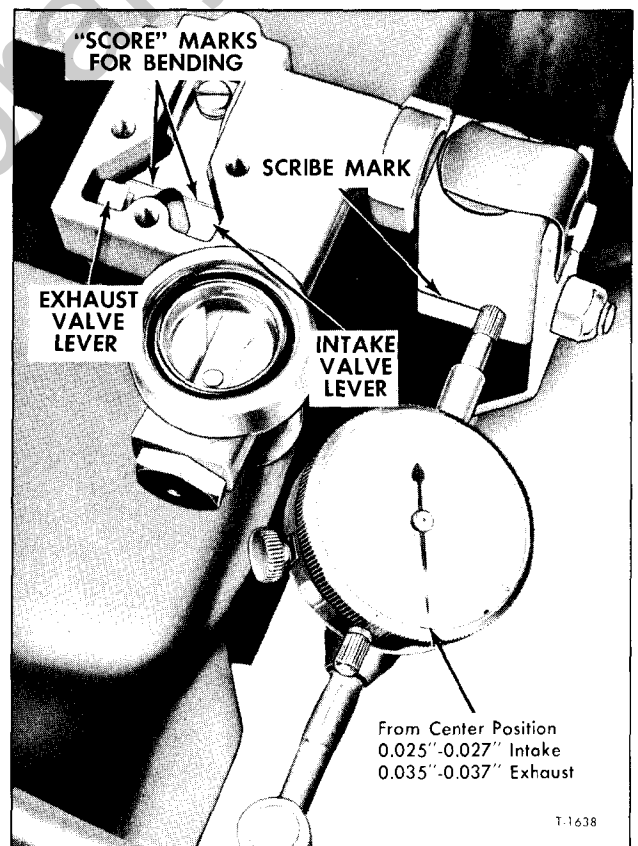

Figure 11—Adjusting Air Valve Lever Gap
4. Starting at true center position, slowly move lever to where air intake valve just begins to open. Listen for escaping air. Note reading on dial at this point. Reading should be 0.025" to 0.027" from lever center position. If necessary, bend intake valve lever to correct setting (fig. 11).
5. Return overtravel lever to center position. Slowly move lever to exhaust side and at same time note the vacuum gauge reading. When vacuum just begins to fall off, the exhaust valve has opened. Valve should open when overtravel lever is moved 0.035" to 0.037" from center position. If necessary, bend exhaust valve lever to correct setting (fig. 11).
b. If necessary, bend intake valve lever to correct setting (fig. 11).